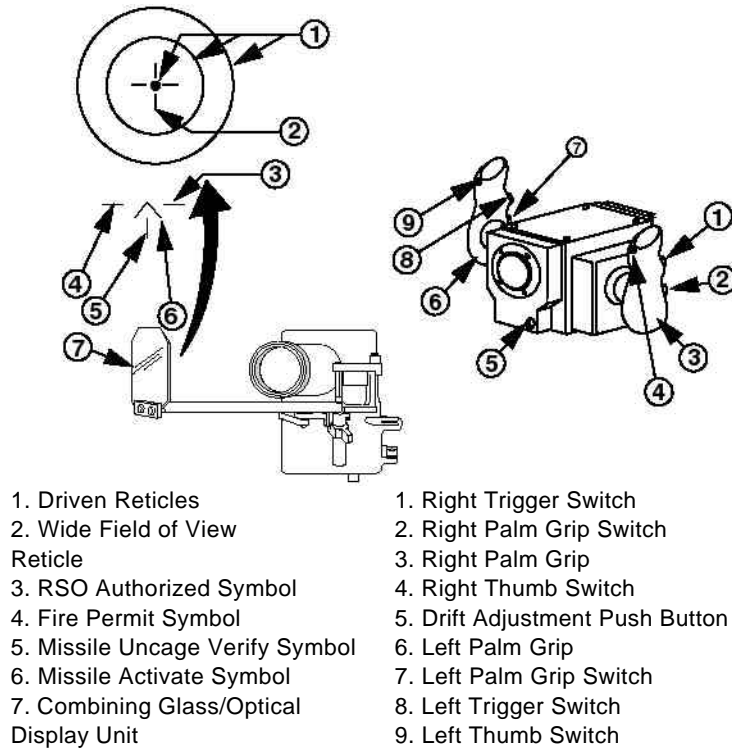

Figure 2-14. FLIR Symbology and Hand Station.
- | Activate missile (depress left thumb button once). Missile activate symbol (^) will appear on FLIR monitors and combining glass. (See fig. 2-14.)
- | Verify fire permit symbology (-) has appeared to the left of the missile activate symbol on FLIR monitors and combining glass. (Listen for 1,200 cycle tone.) (See fig. 2-14.)